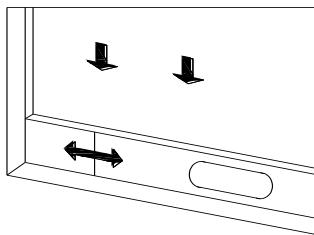
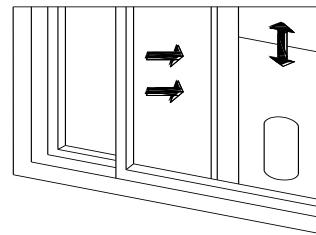

Fig. 3
Fig. 4
- 1) Half open the window, and mount the window sealing plate assembly to the window (as shown in Fig.3 and Fig.4). Components can be placed in horizontal and vertical direction.